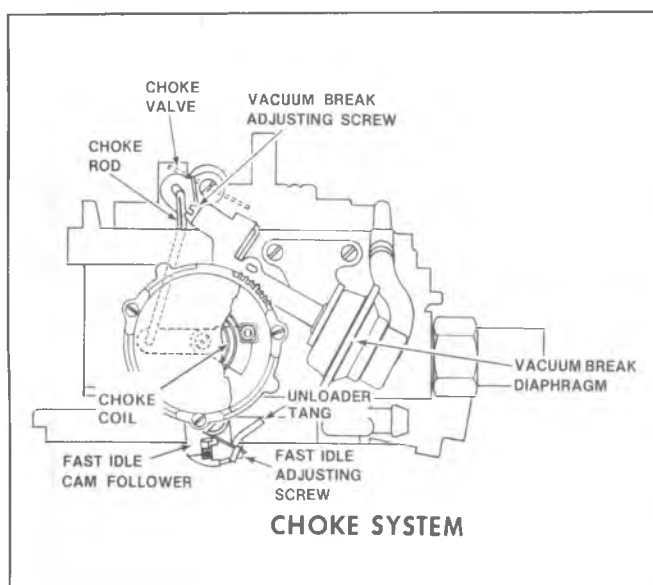

Fig. 6C3-8--M2MC Choke System
7. Using tool J-26911, insert hose with rubber stopper, from propane valve into crankcase ventilation tube opening in air cleaner (Fig. 6C3-14). Propane cartridge must be vertical (Fig. 6C3-15).